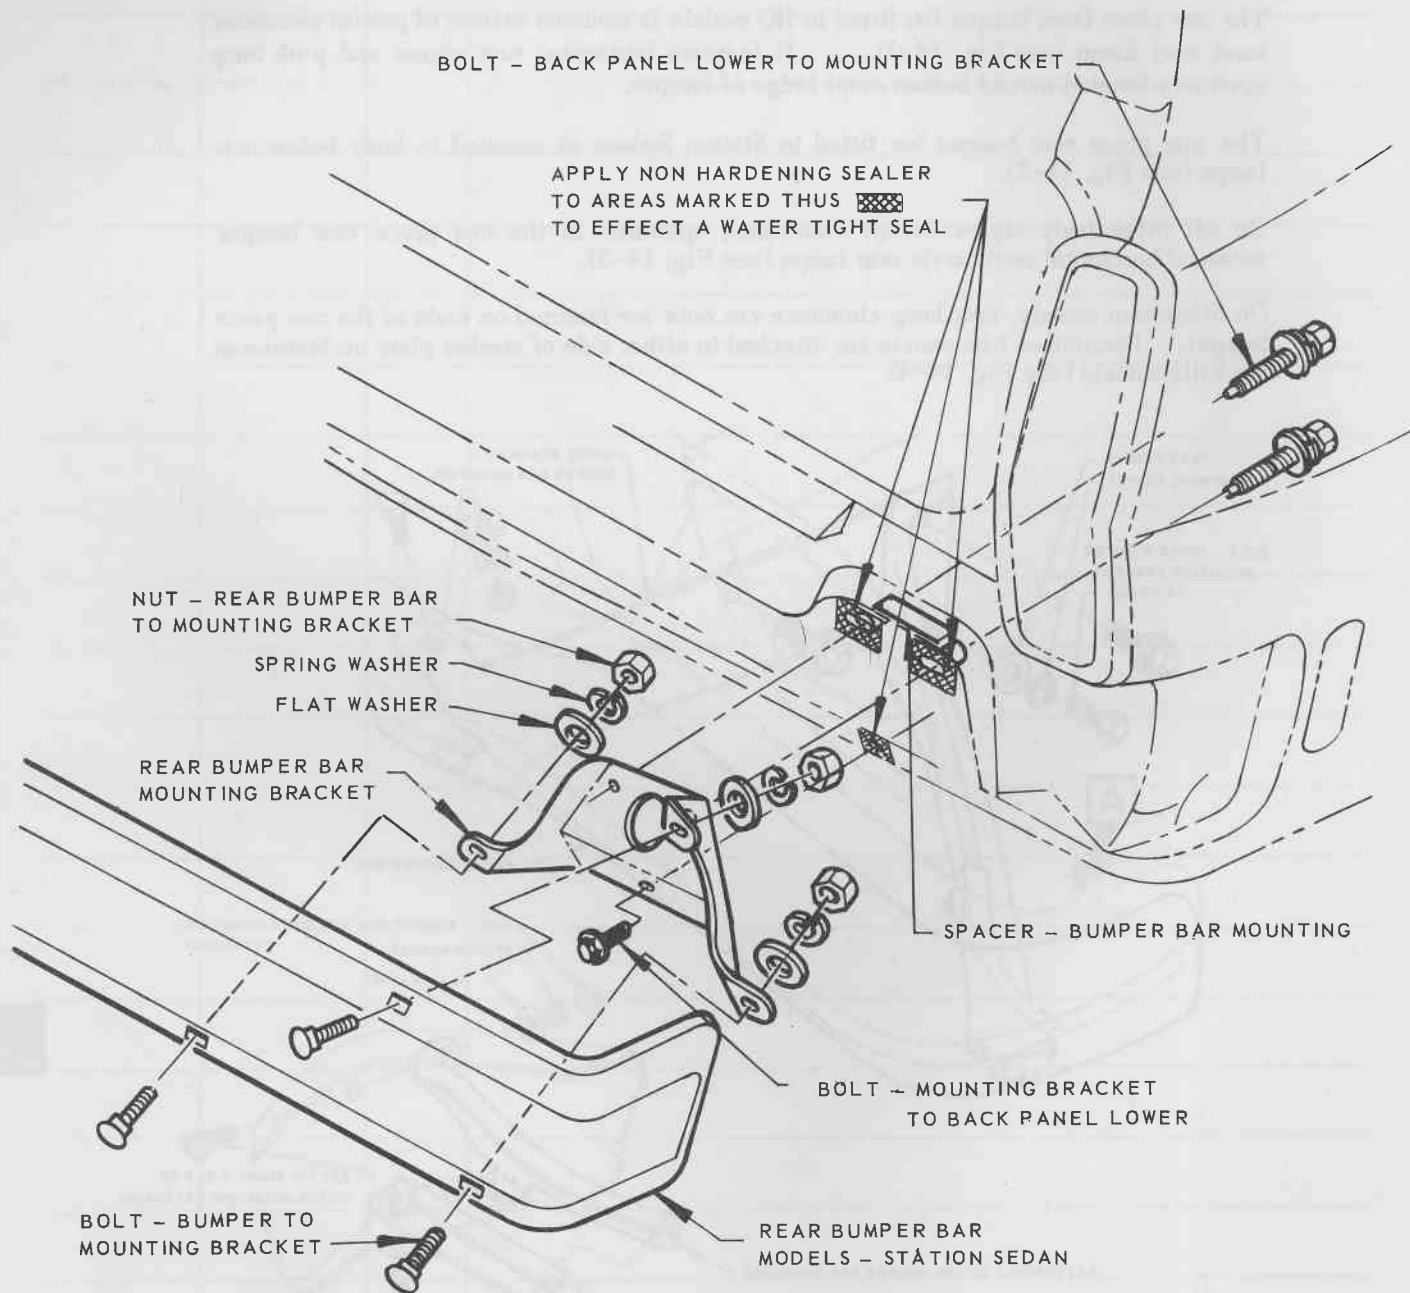

Fig. 14-2
The one piece rear bumper bar fitted to Station Sedans is mounted to body below rear lamps (see Fig. 14-2).
2. On all models and with an assistant to support rear bumper bar assembly, remove bolts securing bumper bar mounting bracket to body back panel lower (see Figs. 14-2, 14-3 or